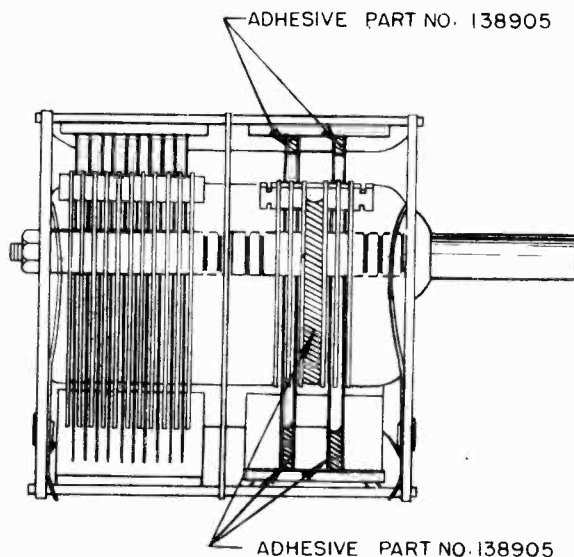

FIG. 2
8. Apply a heavy coat of plastic adhesive (part No. 138905) to the original variable condenser as shown in Fig. 2. Care must be taken so that the adhesive does not interfere with the mechanical operation of the condenser.